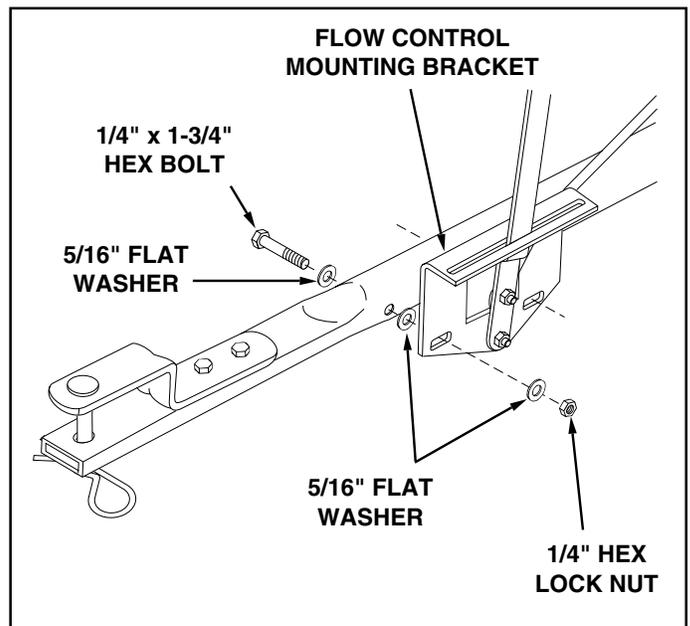

FIGURE 11
20. Assemble the flow control mounting bracket to the hitch tube using two 1/4" x 1-3/4" hex bolts, six 5/16" flat washers and two 1/4" hex lock nuts as shown in figure 11. **Do not tighten at this time.**